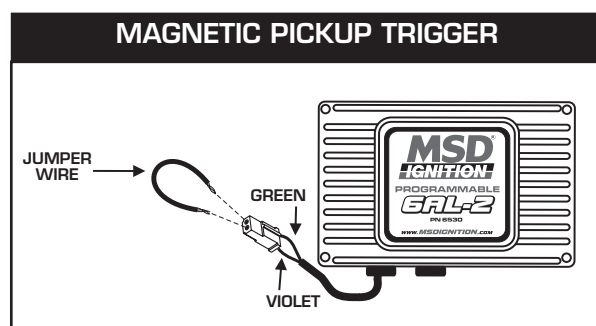

Figure 17 Checking for Spark with the Mag Pickup.
5. With a small jumper wire, short the MSD's Green and Violet magnetic pickup wires together quickly several times (Figure 17). Each time you break this short, a spark should jump from the coil wire to ground. If spark is present, the ignition is working properly. If there is no spark skip to step 6 below: